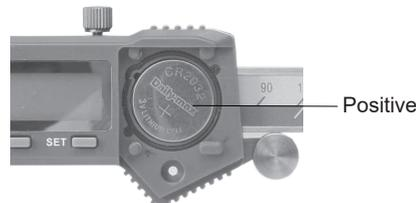

fig.2
---Put CR2032 battery into battery house, the positive side of battery (+) should face out(fig.2)